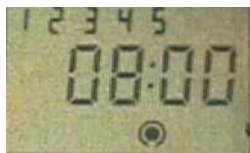

Fig. 5
- Press the Select button until the ☉ symbol is shown (see fig. 5).